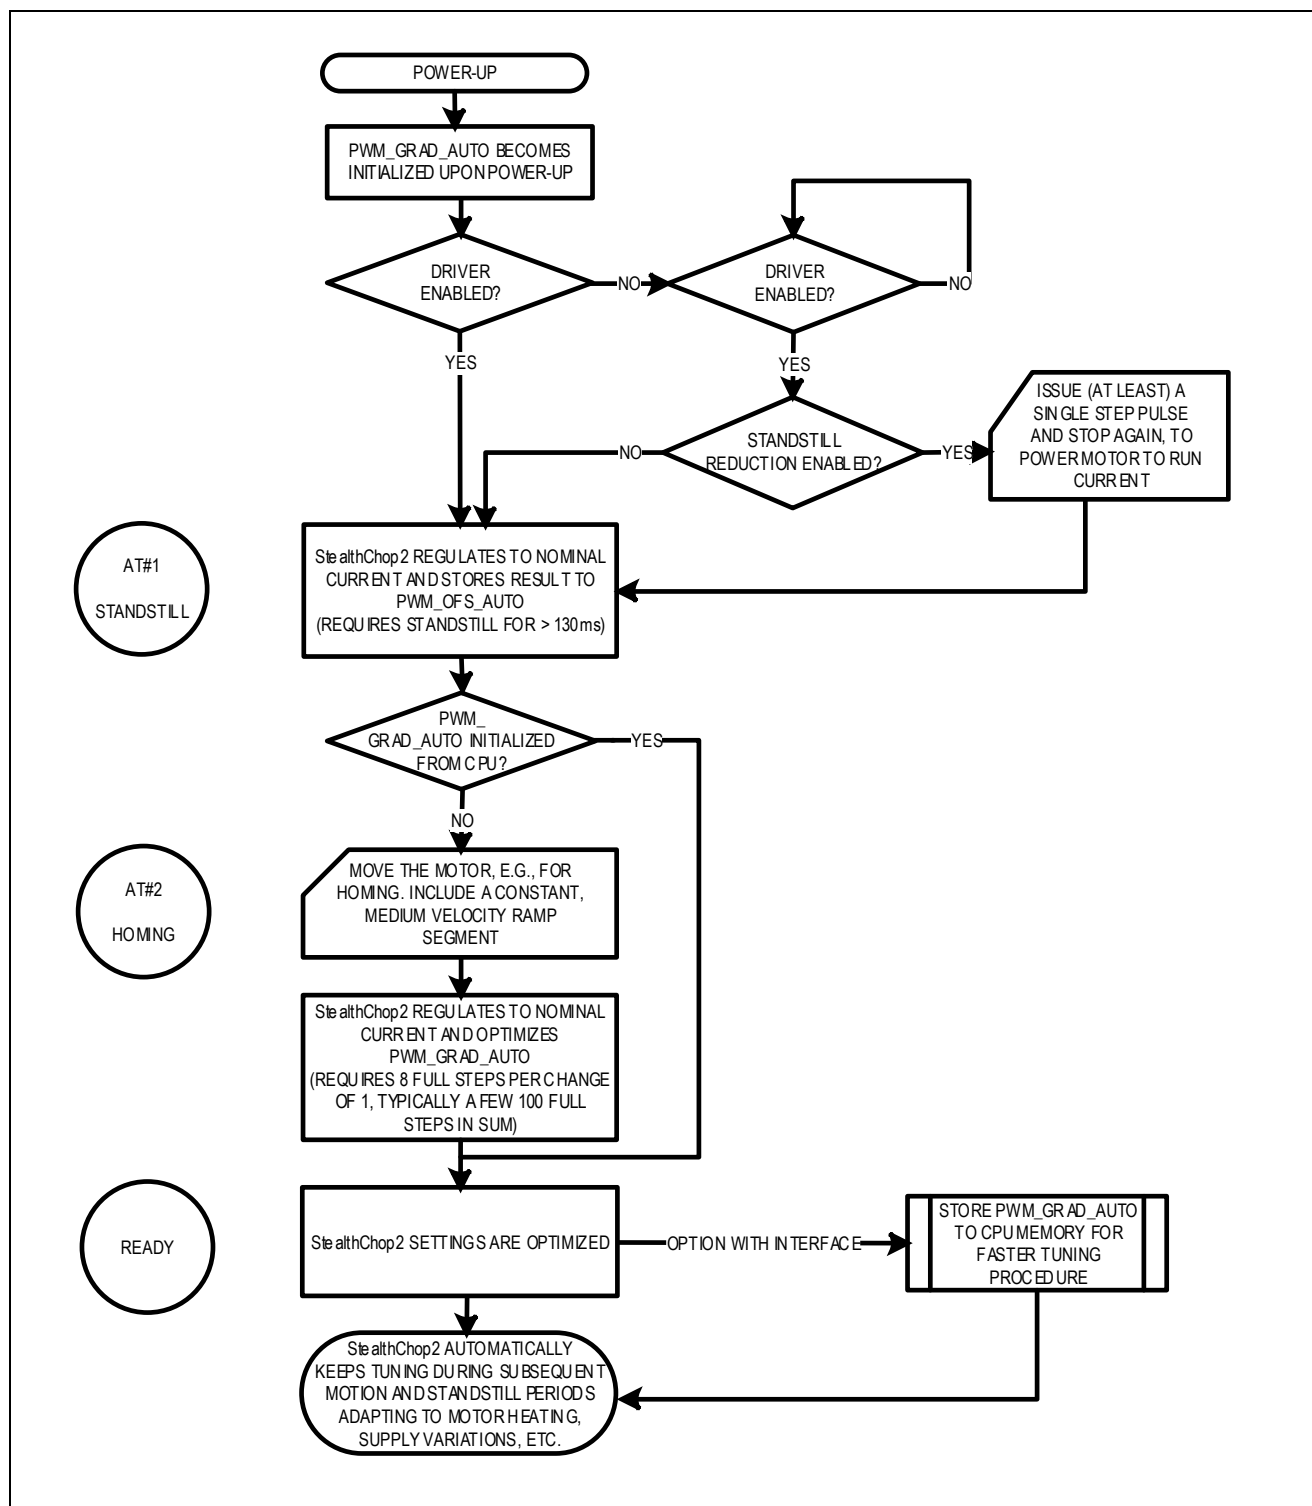

Figure 13. StealthChop2 Automatic Tuning Procedure
In Figure 13, the first STEP signal cycle is long enough to set the standstill bit *STST*. This bit is cleared on the next active STEP edge. Then, the external frequency of the STEP signal increases. After one cycle at the higher rate, MicroPlyer adapts the interpolated microstep rate to the higher frequency. During the last cycle at the slower rate, MicroPlyer does not generate all 16 microsteps. So, there is a small jump in motor angle between the first and second cycles at the higher rate.
StealthChop2 integrates an automatic tuning (AT) procedure, which adapts the most important operating parameters to the motor automatically. This way, StealthChop2 allows high motor dynamics and supports powering down the motor to very low currents. Just two steps must be considered for best results (see Table 7). Start with the motor in standstill, but powered with nominal run current (AT#1). Move the motor at a medium velocity, example, as part of a homing procedure (AT#2). The flowchart in Figure 13 shows the tuning procedure.